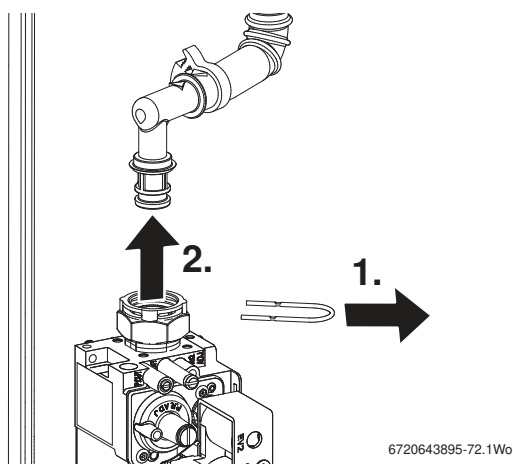

Fig. 77 Gas valve connection
1. Refer to figure 77 and remove the clip from gas valve outlet.